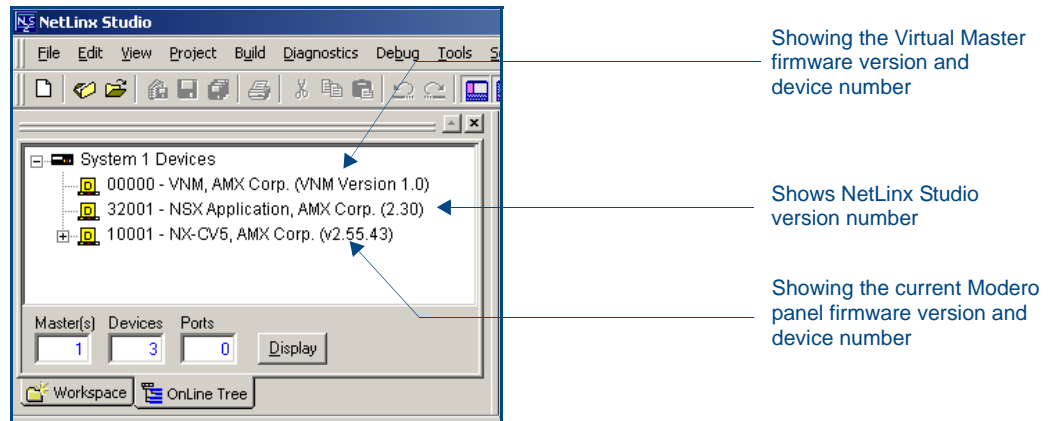

FIG. 45 NetLinx Workspace window (showing the panel connection via a Virtual NetLinx Master)
- After the Communication Verification dialog window verifies active communication between the Virtual Master and the panel, click the **OnLine Tree** tab in the Workspace window (FIG. 45) to view the devices on the Virtual System. *The default System value is one.*
- Right-click on the System entry (FIG. 45) and select **Refresh System** to re-populate the list. Verify the panel appears in the **OnLine Tree** tab of the Workspace window.